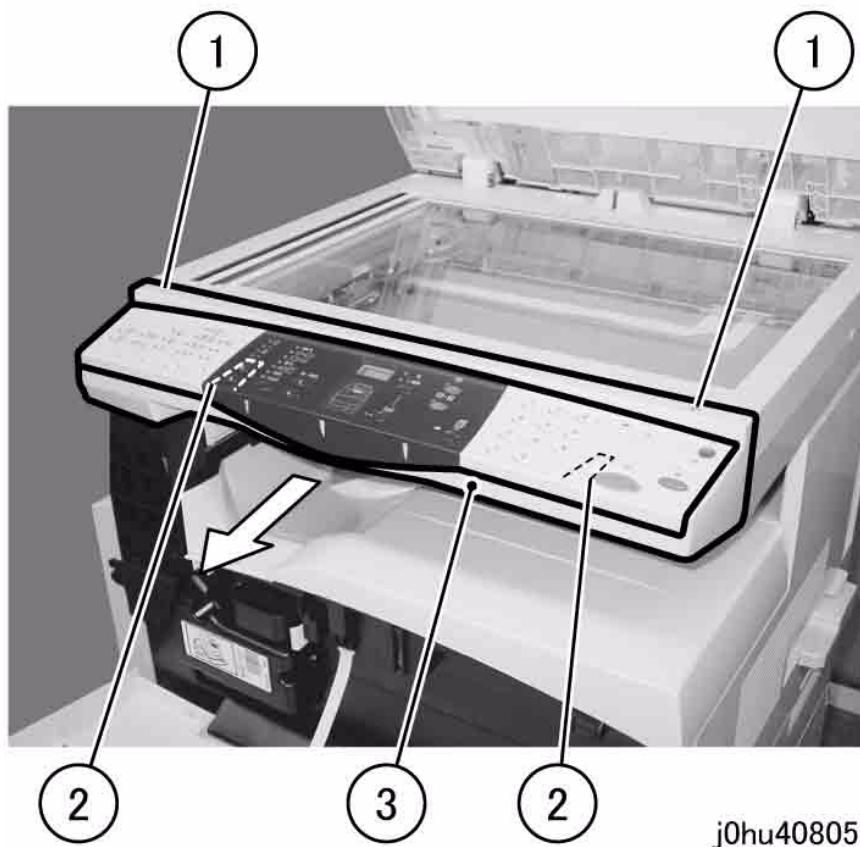

Figure 1 Remove the Control Panel Cover
2. Remove the Control Panel Cover (Figure 1).